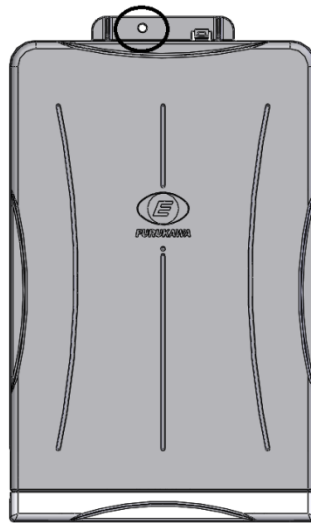

Figure 43
1.11.2 A hasp lock can be installed for added security. (Fig. 43).